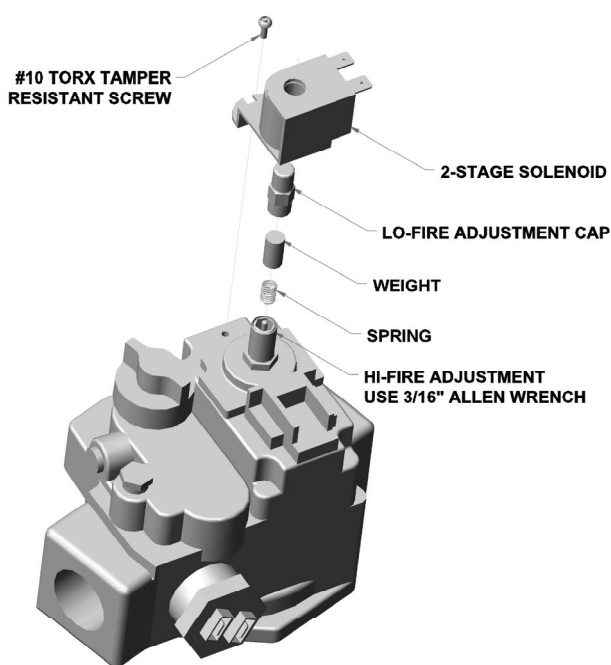

Fig. 30: Gas Valve Adjustment (Invensys Valve)
2. Locate and remove the Torx tamper resistant screw. (Shown in Fig. 30)